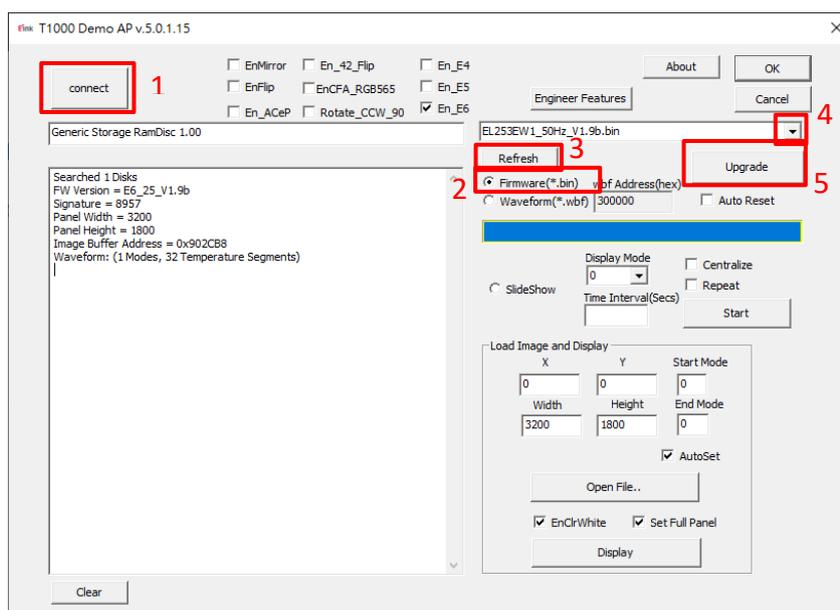

Figure 3.4
(2) How to upgrade firmware
- ◆ Execute "T1000_Windows_AP_x.x.x.xx.exe" (refer to Figure 3.4)